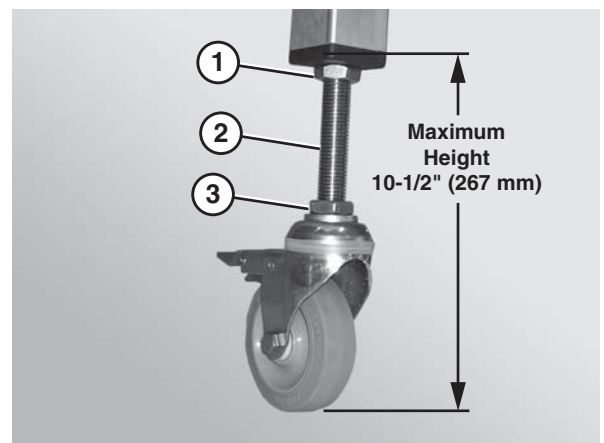

Figure 20
1. Loosen the upper nut (Figure 20, item 1) on the caster stem (Figure 20, item 2).
2. Rotate the lower nut (Figure 20, item 3) on the caster stem (Figure 20, item 2) to raise or lower the stand to the desired height.